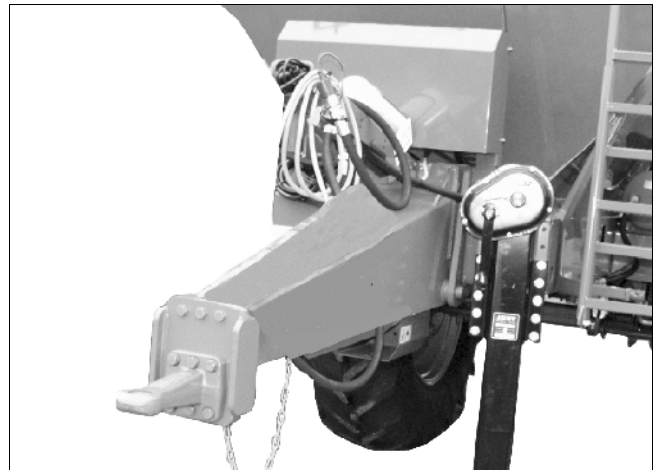

Fig. 8
- a straight draw bar (Fig. 8),